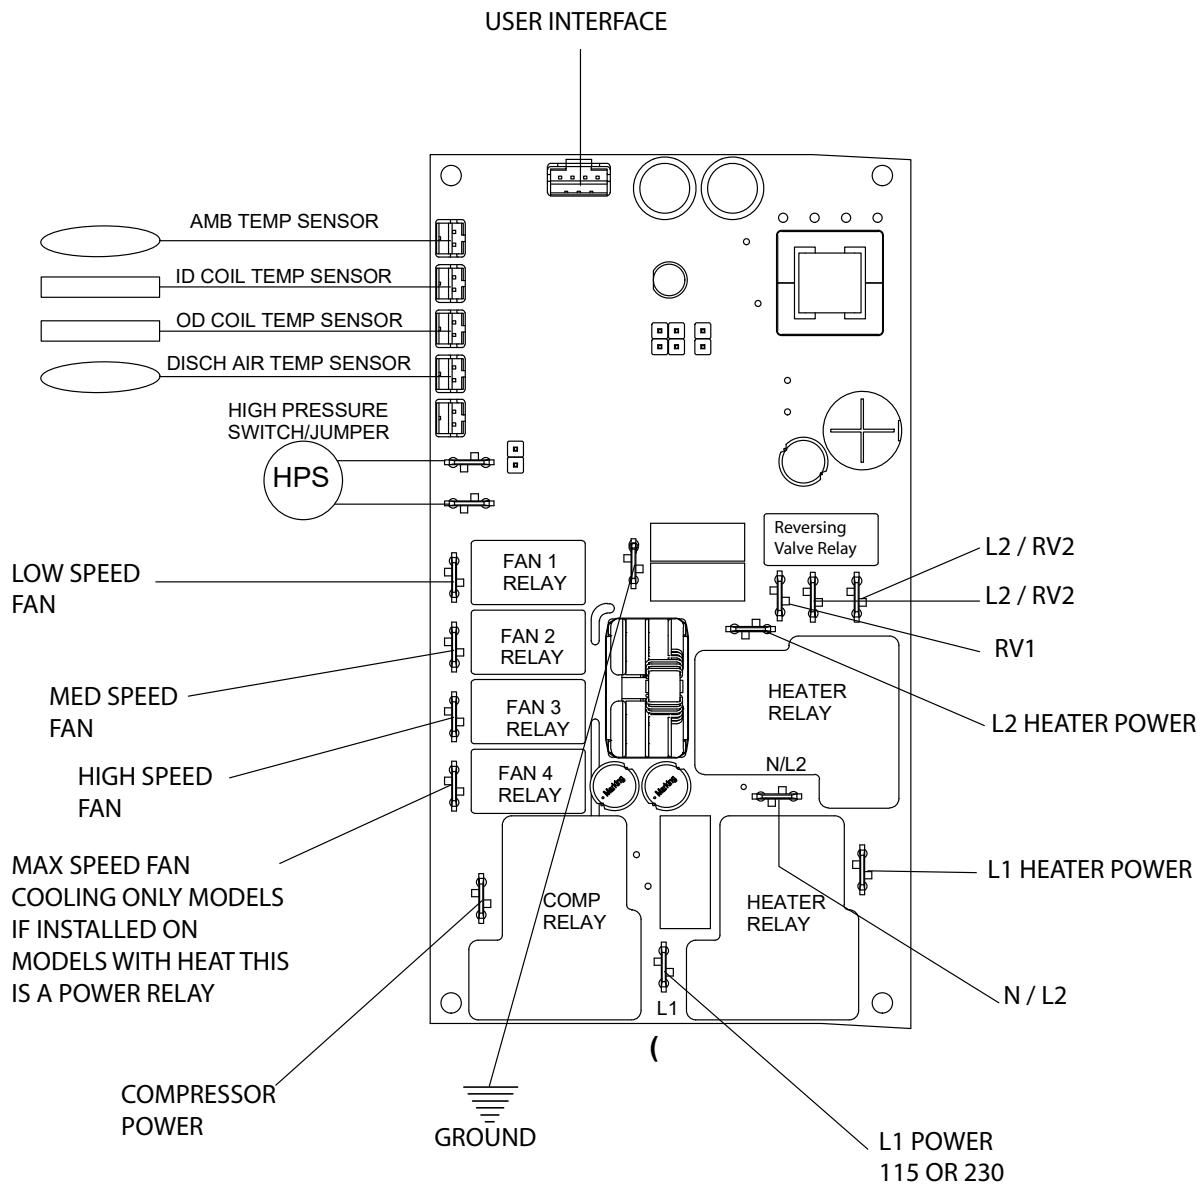

Figure 712 (Electronic Control Board Identification)
1. Make sure the unit has the proper voltage and that it is turned on. Check power at Terminals L1 and L2. (refer to Electronic Control Board Identification, Figure 712)
user interface port of the electronic control board . There should be 24VDC. (refer to Electronic Control Board Identification, Fig 712)
2. Locate thermistor plug and disconnect from Control Board. (refer to Control Board Identification, Fig 712)